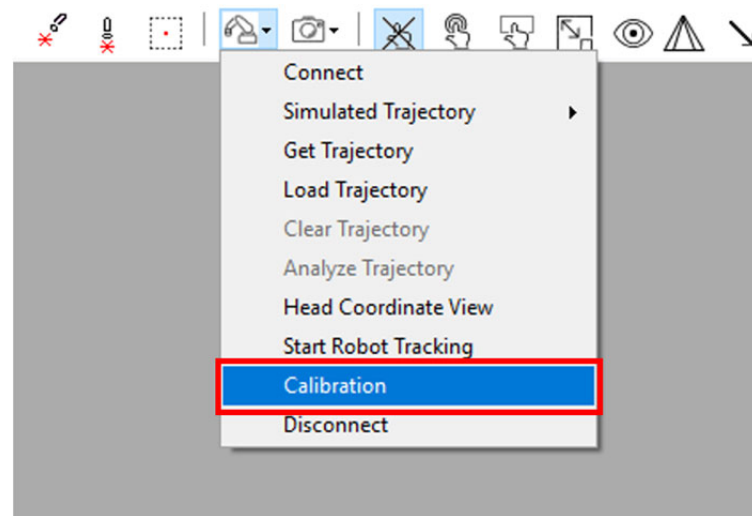

Figure 271: Opening the Calibration Wizard
2. Click "Calibration." See Figure 271 (below).